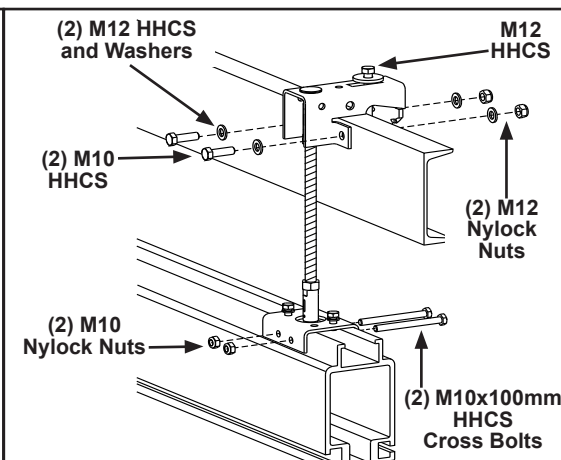

Figure 3-40
- Step 3. Place C-Channel bracket on top of structural steel. See Figure 3-40.
- Step 4. Clamp wedge to structural steel, tightening M12 nylock nut on M12 x 100 mm HHCS. **Tighten until bolt is snug + 1/4 turn.** Do not over tighten. Over tightening could cause bracket to bend. See Figure 3-40.